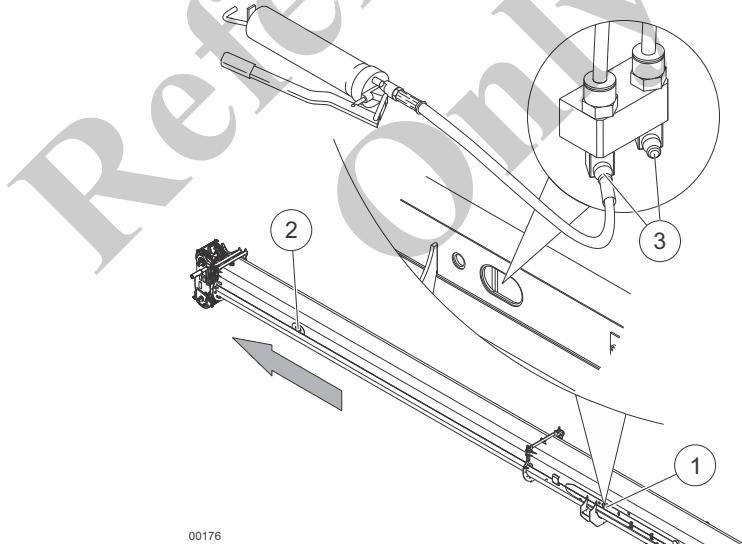

Fig. 37 Lubricating the telescopic boom
- The lubricating opening (1) in Fig. 37 at the basic body must align with the opening of the telescopic section below it.
- 10 Lubricate the lubrication points (3) in Fig. 37 by five strokes of the grease gun.
| 11 | Repeat the procedure at a boom extension of 40 m and at lubrication opening (1) in Fig. 37 to lubricate the third telescope section. |
| 12 | Repeat the procedure at a boom extension of 39.5 m and at lubrication opening (2) in Fig. 37 to lubricate the second telescope section. |